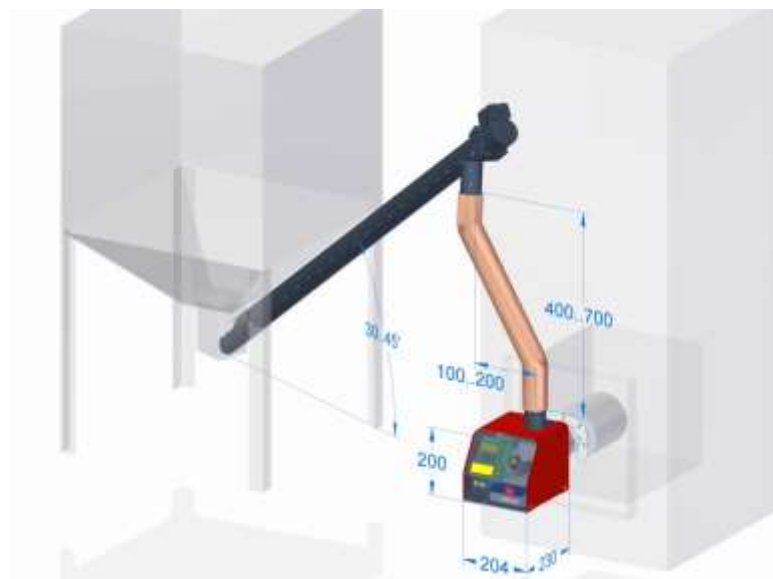
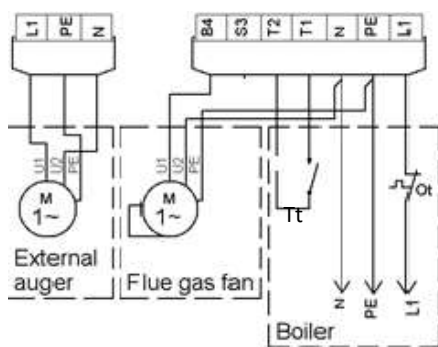

Figure 11 External auger placement
Figure 13 Socket connections
- the container must be positioned in a way that the raising angle of the feeding auger does not exceed 45°. Figure 11.
Figure 11 depicts correct installation of external auger. As melting hose is a safety element, it has to be installed strictly as follows:
The burner is equipped with a standard oil burner plug (under red cover on right side) that has 7 contacts. There are different connection schemes used for different boilers. Usually the burner is connected to the boiler with a 5- wire cable (Figure 11). Also is possible 4-wire connection. In both cases connection of boiler thermostat 'Tt' is different. In Figure 13 there are depicted socket connection diagrams of external auger, flue gas fan and boiler. It is important that plug has to be pushed completely into outlet. Sides will be fixed with plastic stud.
- The external auger is connected to the burner according to Figure 11.